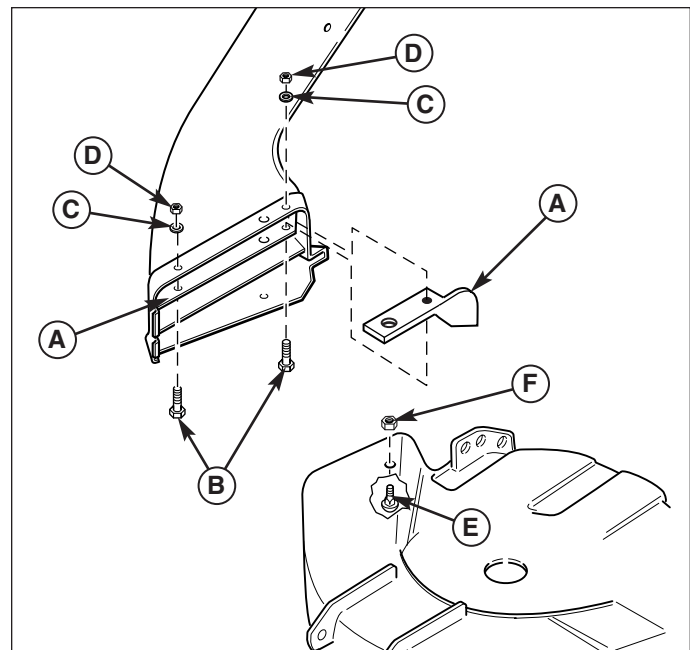

Figure 7.
1. Install reinforcement strap (A, figure 7) inside the adapter and secure it to the top outer holes using two 10-24 x 5/8" flat head screws (B), flat washers (C) and 10-24 nuts (D). Be sure the cut-off bracket (G) is installed between the reinforcement plate (A) and adapter.
2. In rear hole of mower deck, install 5/16-18 x 1-1/4 carriage bolt (E) from the bottom and secure with 5/16" jam nut (F).